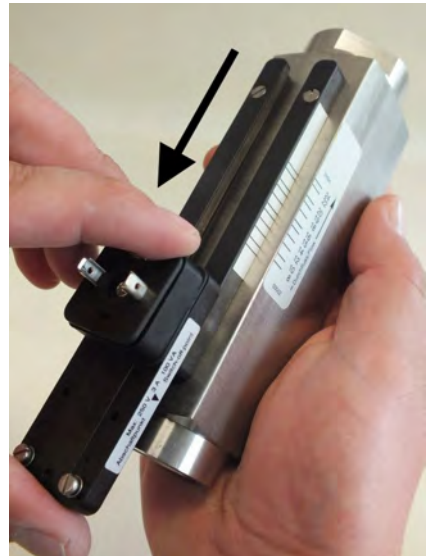

Fig. 56: Remove the switch contact from guide rails
4.  Slide the switch contact from the guide rail (Fig. 56).